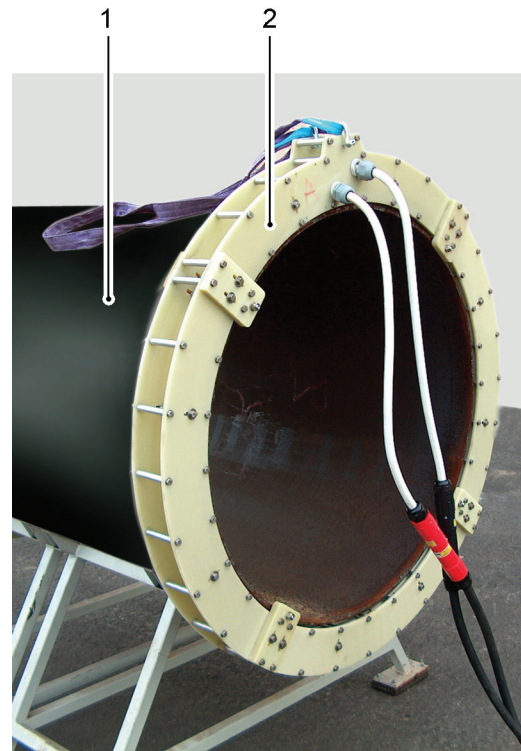

Figure 6.40 - Positioning of the external ring coils onto the pipe
- 1) By using the motor vehicle mechanical arm, lower the external ring coils (see Figure 6.40/2) in correspondence with the pipe (1) to be treated.
- 2) Fit the external ring coils (2) onto the pipe (1), up to stop.